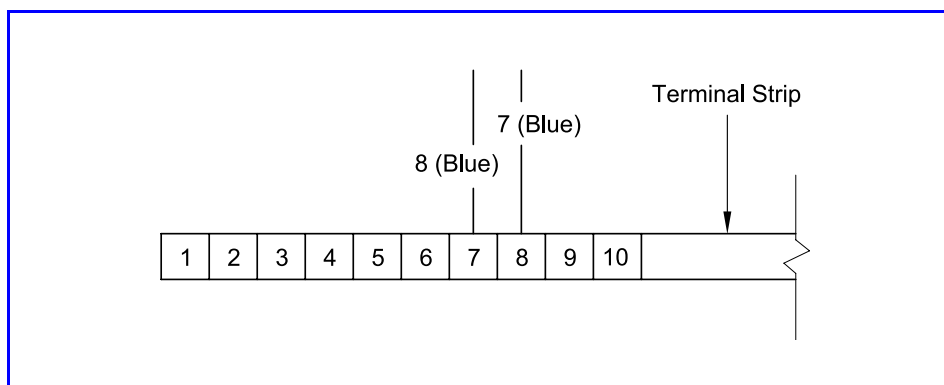

Figure 6 *Wiring Connection for Current Mode of Operation*
4. Plug wire No. 7 (blue) on wire No. 8 terminal and plug wire No. 8 (blue) on wire No. 7 terminal. See **Figure 6**.